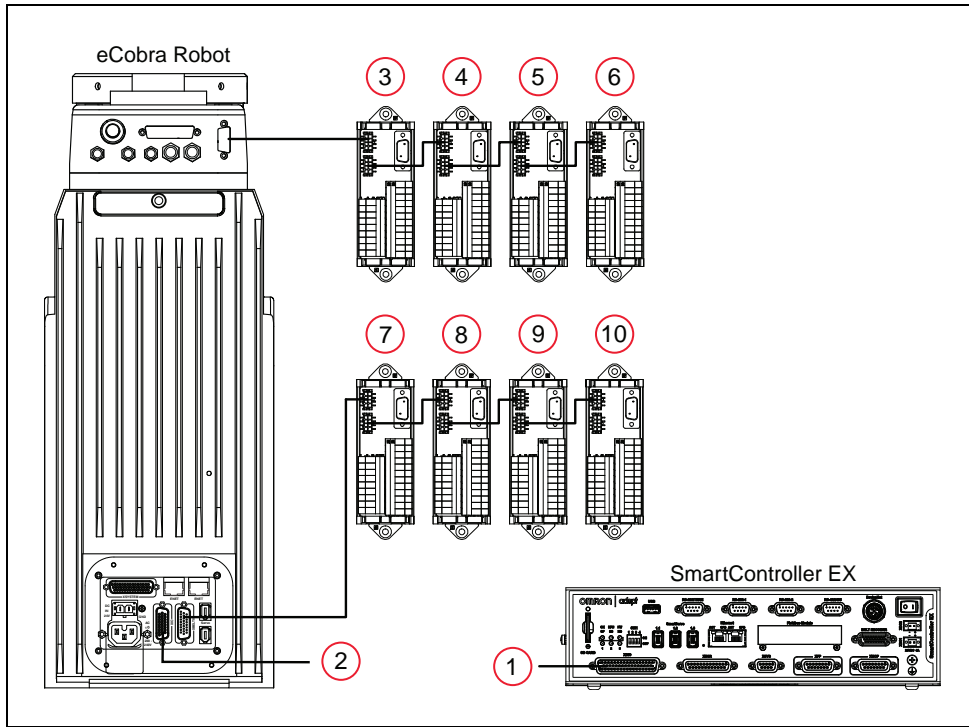

Figure 5-4. Connecting Digital I/O to the System
**NOTE:** A typical IO Blox configuration is shown in Figure 5-4. Other configurations may be possible. Contact your local Omron support for more information.